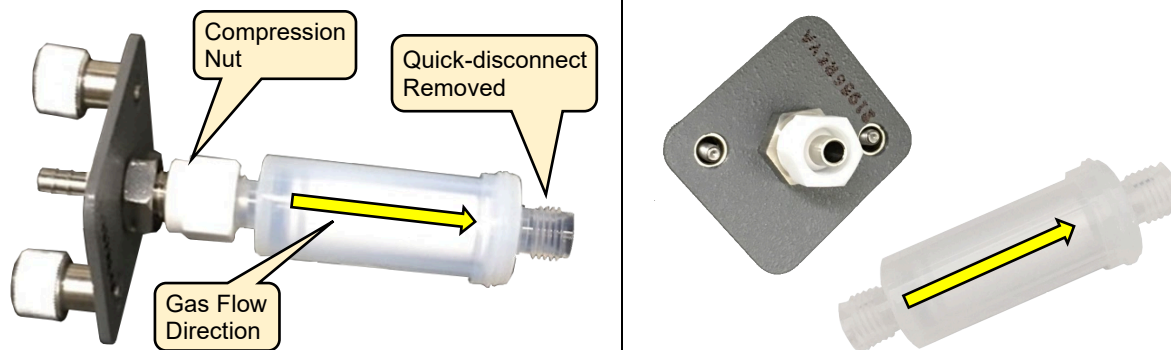

Figure 46: Filter Removed from Pressure Inlet Bulkhead
8. Tighten the nut on the fitting until the final bit of thread is just showing past the nut (Figure 46).
11. Tighten the nut on the fitting until the final bit of thread is just showing past the nut (Figure 46).
7. Tighten the nut on the fitting until the final bit of thread is just showing past the nut (Figure 46 above).